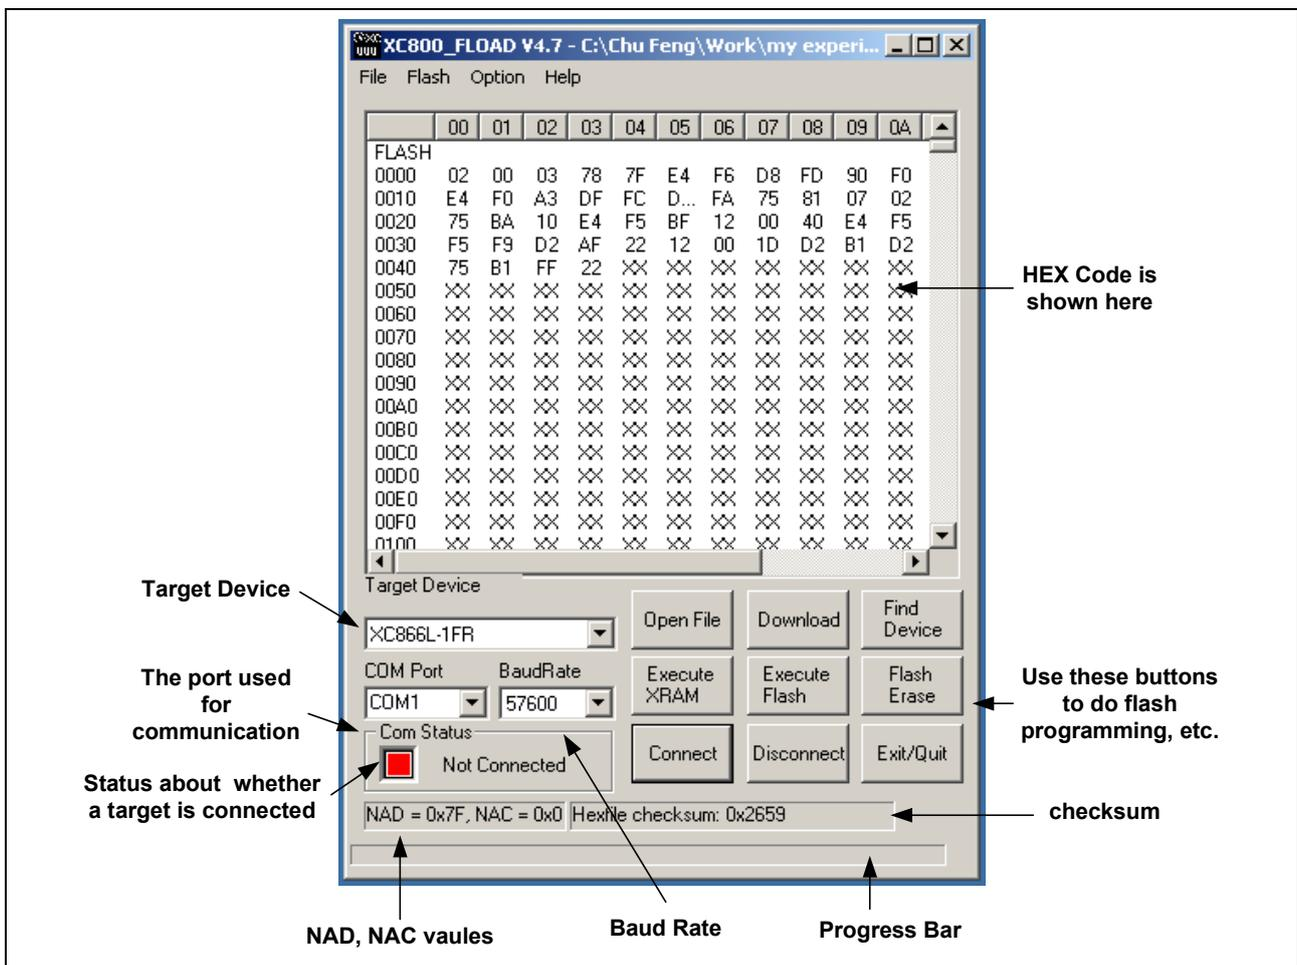
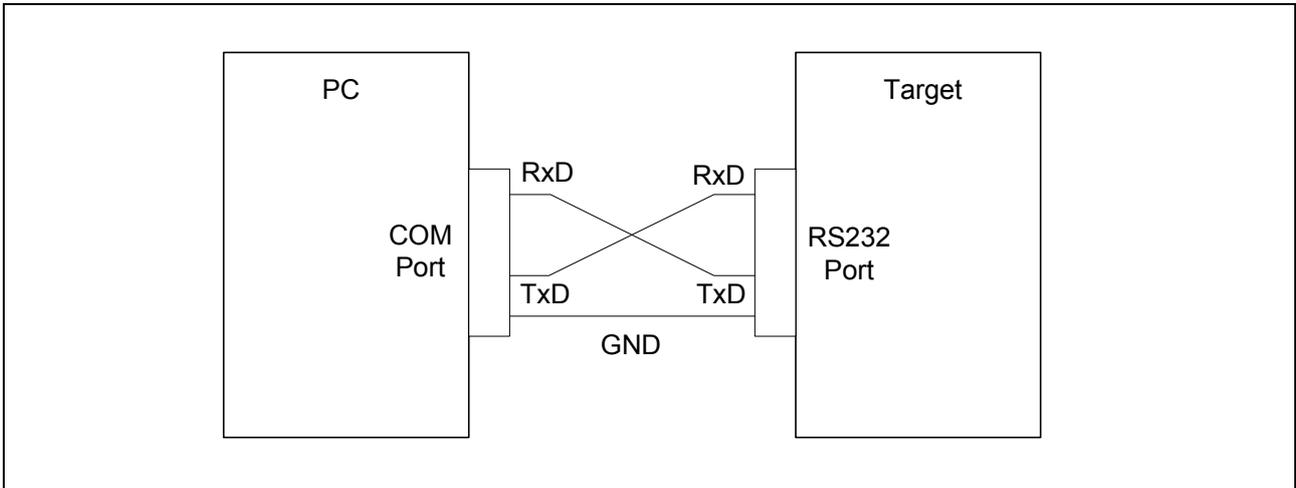

Figure 1 The user interface of the Fload
Figure 2 The connection between a PC and a target system with RS232 port for UART BSL programming.
- (1) Download the FLOAD installer (setup.exe) from Infineon's Webpage (www.infineon.com>microcontrollers>Development Tools, Software and Training>C500/C800, XC800 Development Tools and Software>Software Downloads).
- (2) Run the installer and the XC800_FLOAD will be installed on you PC.
- (3) Running FLOAD will start a graphical user interface (GUI) as shown in Figure 1.
- (4) Connect the host PC with the target system. Since FLOAD is able to program target systems with different interfaces (protocols), the connection between the PC and the target system should be suitable for respective interfaces.
- Figure 2 shows the connection between a PC and a target system with RS232 port, where FLOAD uses UART BSL for programming.